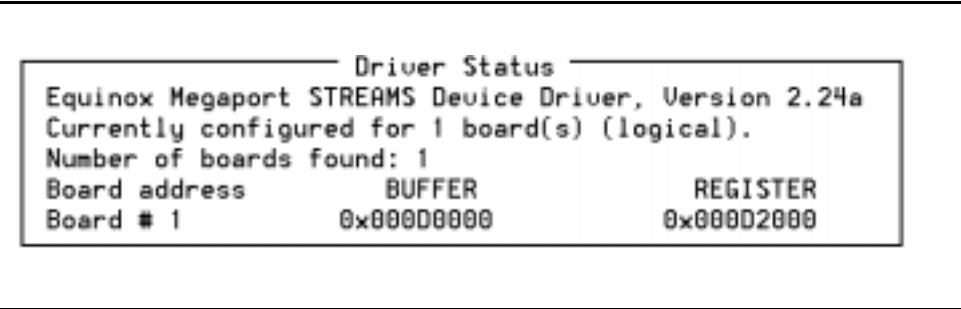

Figure 2-8. Driver Status Window
- The system displays the Driver Status window (Figure 2-8).